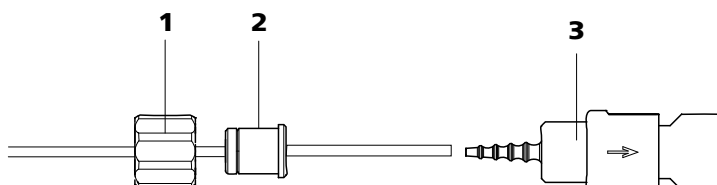

Figure 30 Install pump tubing connection with filter
- **Case A:** a 6.2744.180 pump tubing connection **with filter** (see Figure 30, page 57) or